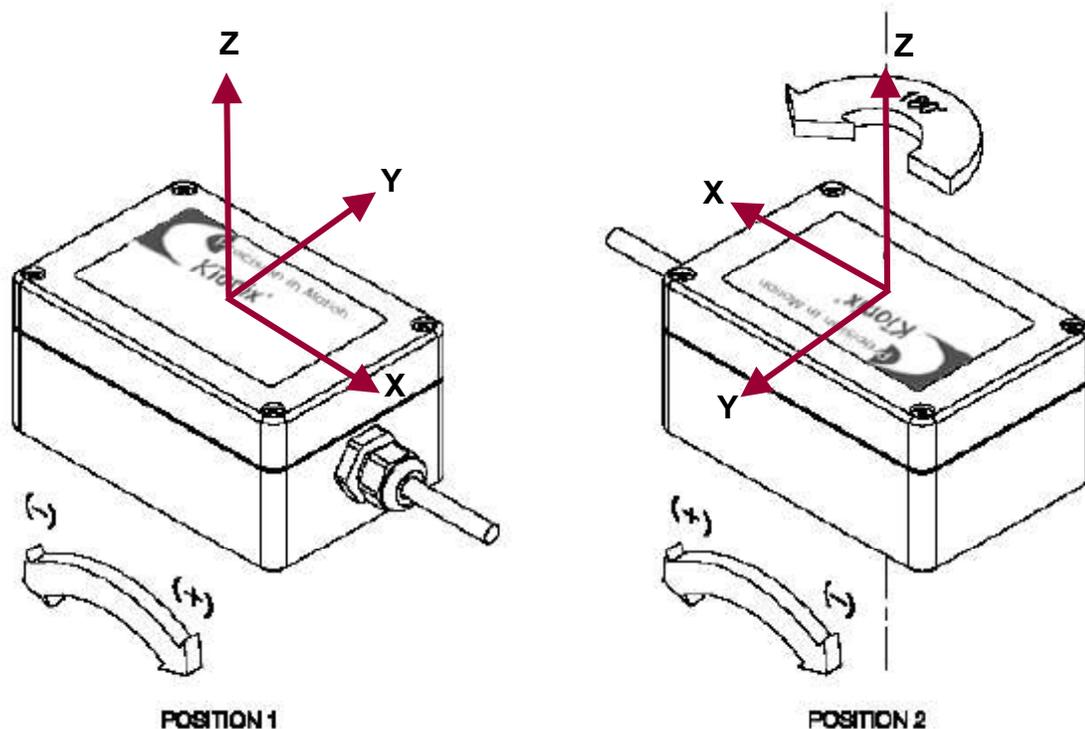

Fig. 1) Rotating a sensor module 180 degrees on a flat surface
3. Rotate the sensor module 180 degrees on the surface so that it is facing the opposite direction (see Figure 1).